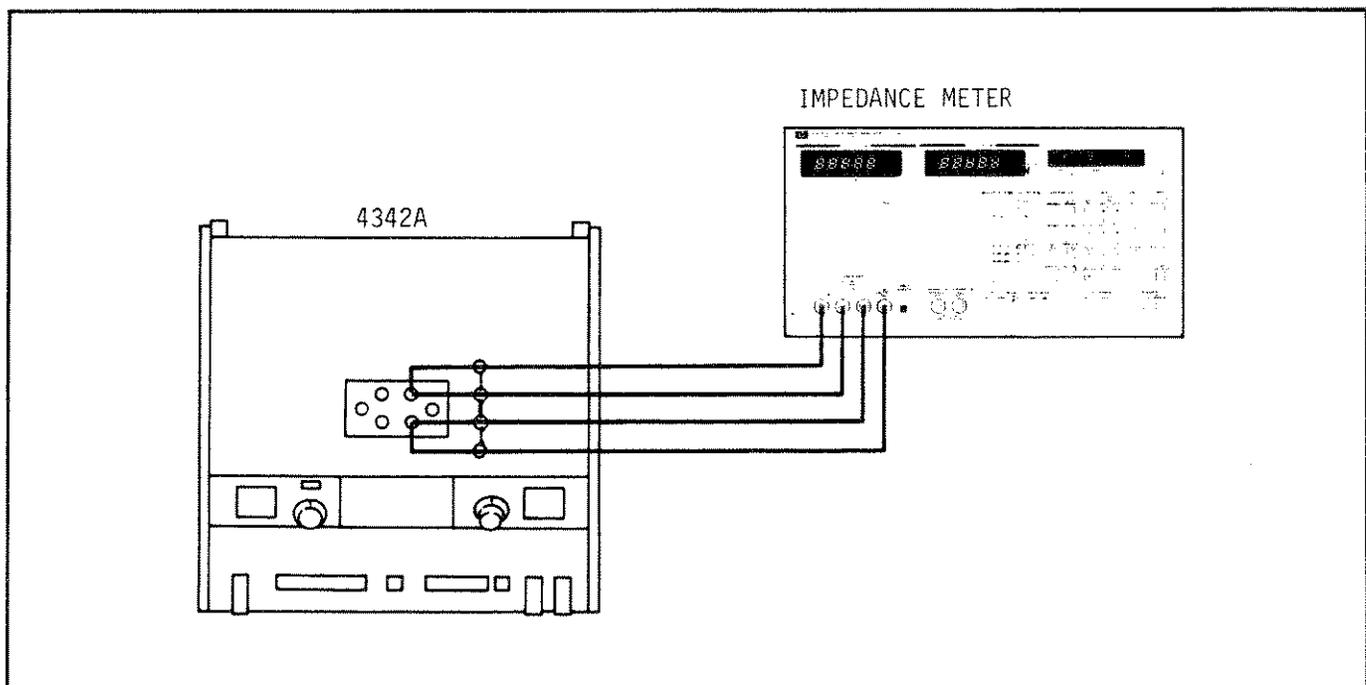

Figure 5-3. Capacitance Accuracy Check.
- a. Connect Impedance Meter to 4342A HI and GND terminals as shown in Figure 5-3.